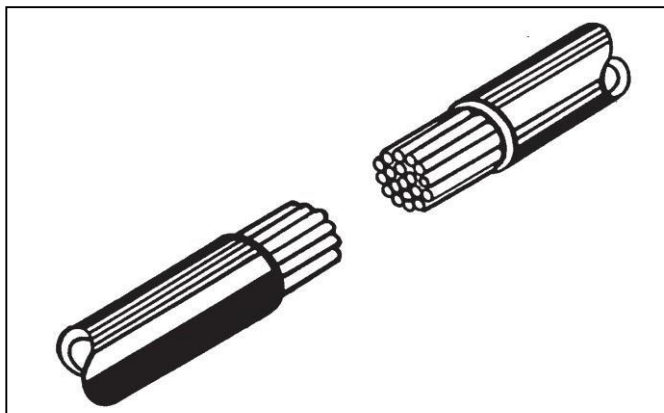

Figure 25
1. Strip about 3/8" of the insulation from the ends of the two wires to be spliced (Figure 25).